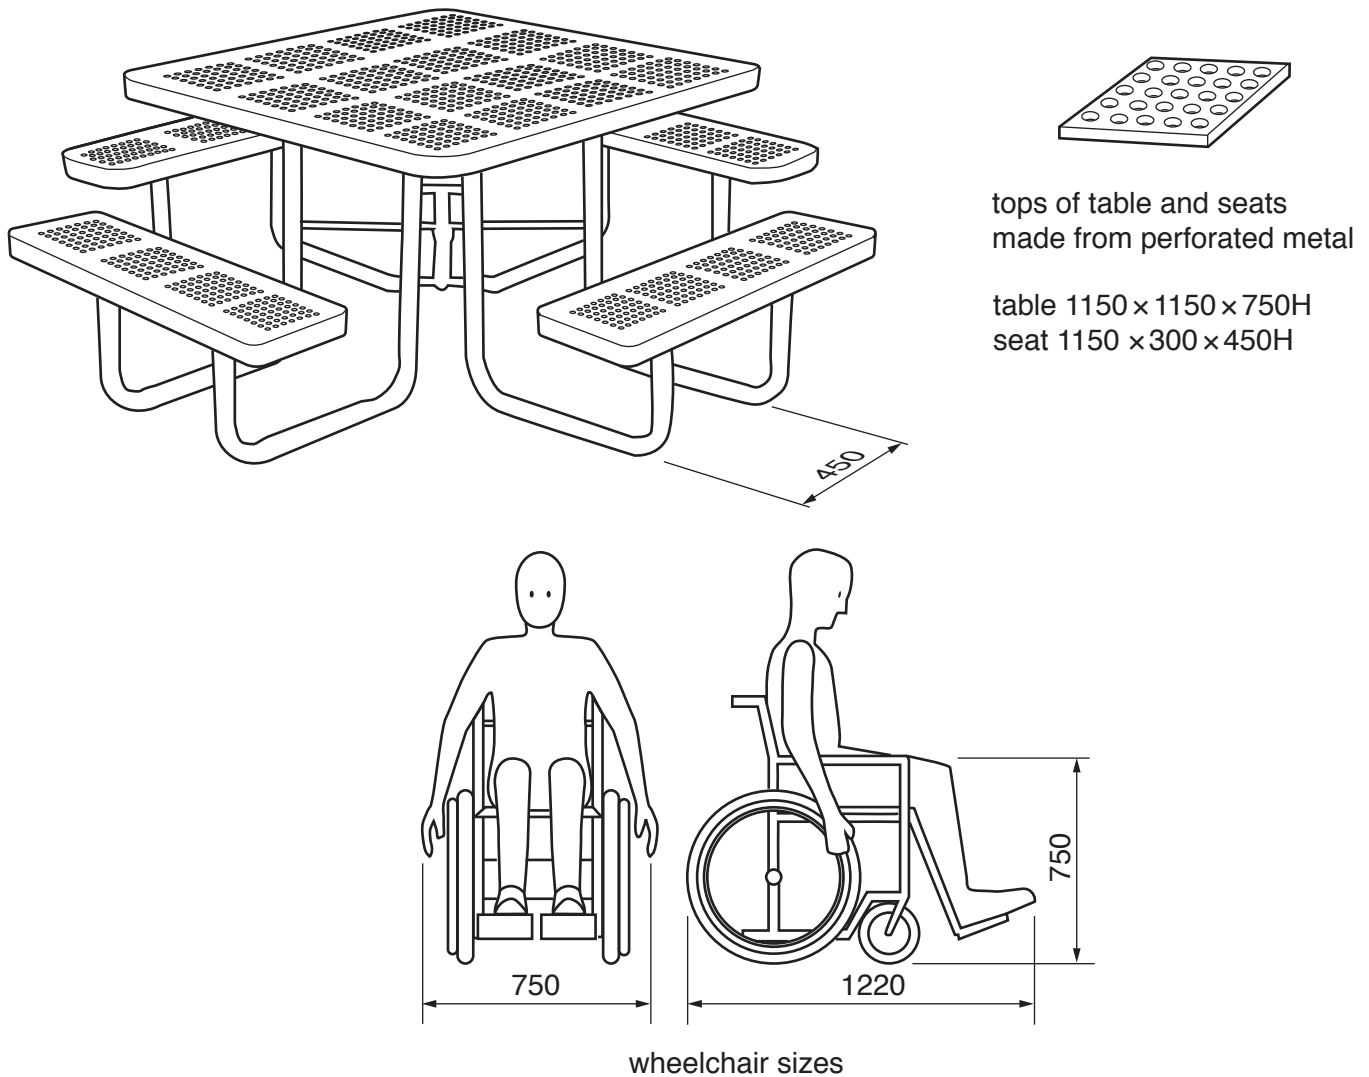

Fig. 6
- 6 Fig. 6 shows a design for a table and seats which will be located in a park or other public space. Details are also given about wheelchair sizes.